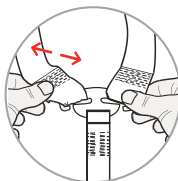
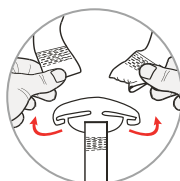

Fig.1
Fig.2
3. To remove the safety harness shoulder straps, slide both harness straps from the metal slider plate. (Fig.1/Fig.2)